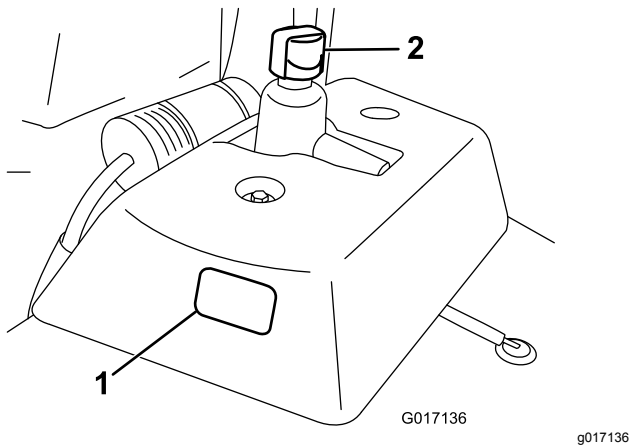

Figure 48
2. Check the oil level by viewing the sight window on the side of the auxiliary oil tank (Figure 48).